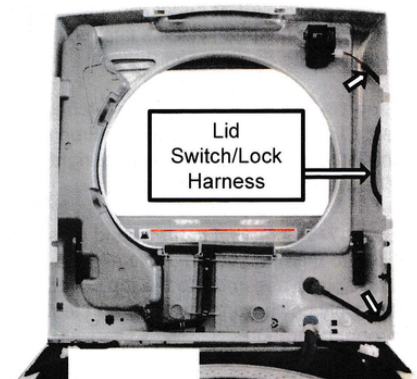

FIGURE 6
10. Remove (2) 1/4 inch hex head screws at the rear of the top cover (one on each side) securing the top cover to cabinet. Unclip the (2) front clips and raise the top cover up to access the lid switch/lock harness. *See Figure 6.*